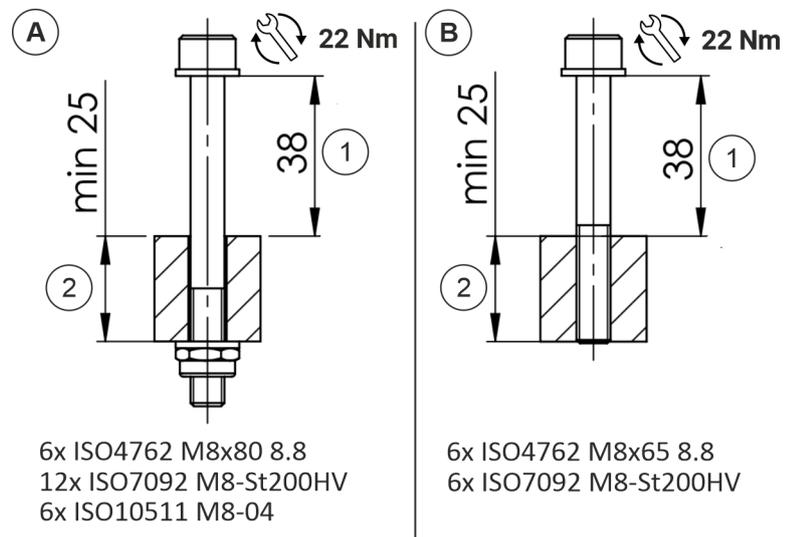

Fig. 41 Threaded connections for the robot base (fastening elements)
- It is ensured that the bolts for the threaded connections between the robot base and mounting plate meet the specifications in **Fig. 41**.
- With regard to the bolt length, note that the robot base has a hole depth of **38 mm** **Fig. 41** / ①.